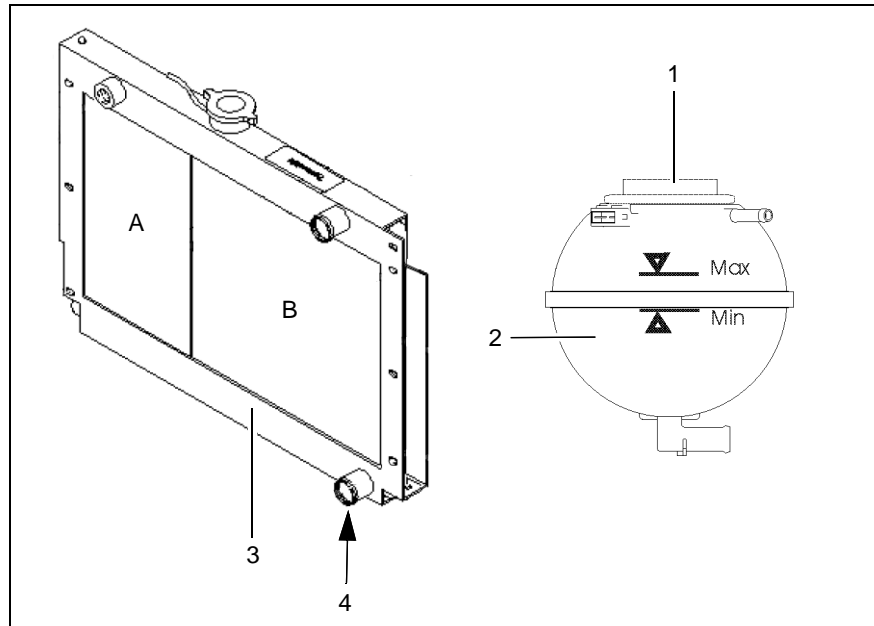

Fig.16
The hydraulic system and engine are protected from overheating by means of the cooling system. The coolant is cooled in the radiator (Fig. 16/3) by means of a fan. If the coolant temperature is too high, it is indicated in the operating panel.
Check the air vents and ribs of the radiator (Fig. 16/3) for accumulations of dirt every day and clean as necessary. Dirt on the radiator ribs reduces the cooling capacity.
2. When the engine has cooled down, carefully open the cap (Fig. 16/1) on the fluid reservoir (Fig. 16/2).